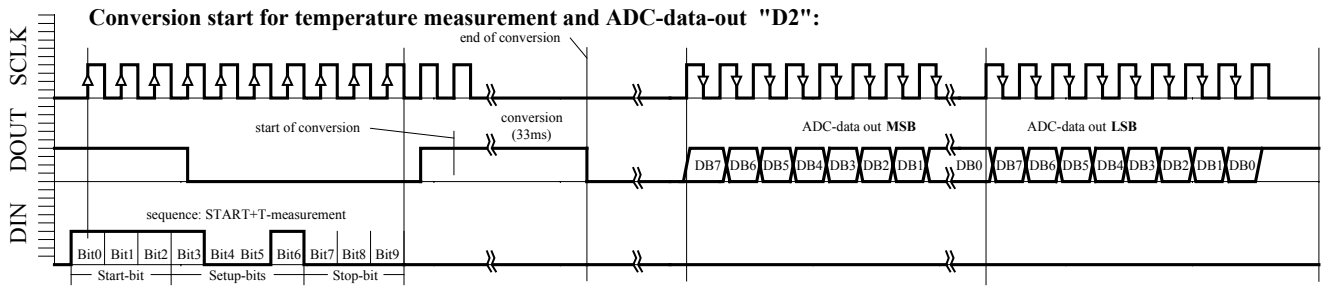

Figure 4b: D2 acquisition sequence
- Conversion start for temperature measurement and ADC-data-out "D2" (Figure 4b)